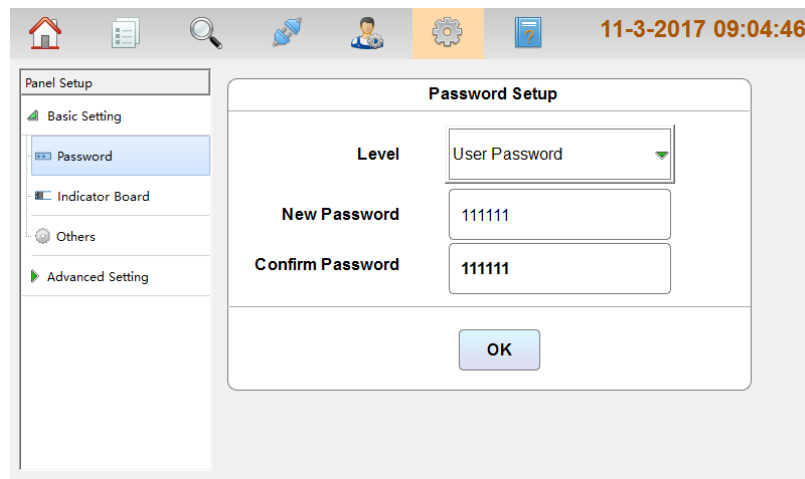

Fig.5-2
- Password: clicking **Password** in **Basic Setting** menu enters the screen for setting passwords as shown in the figure below Fig.5-2. There are two types of passwords including **User Password** and **Engineering Password**. After setting, pressing **OK** can save the settings.